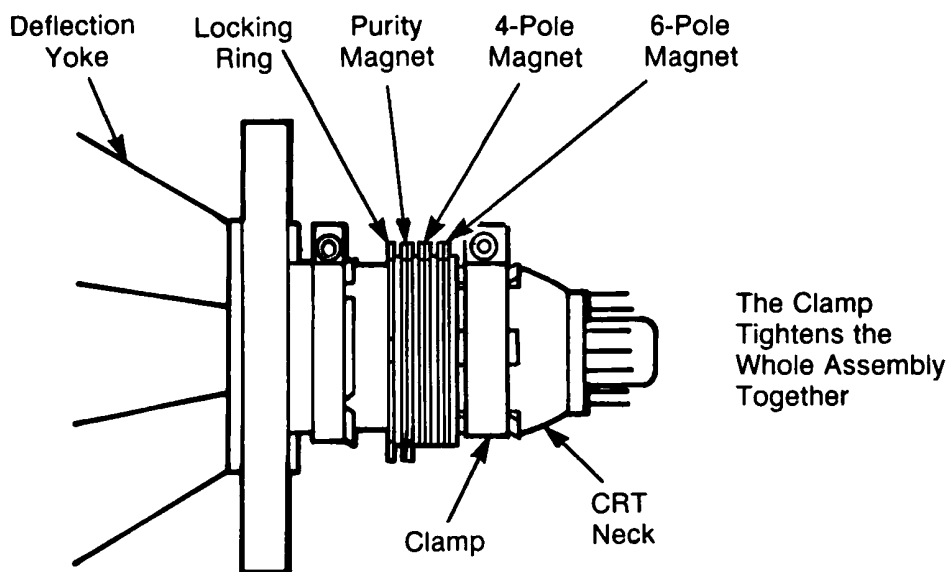

Figure 2-12 Magnet Set Placement
1. The magnets should be positioned along the neck of the tube approximately as shown in Figure 2-12. If they are not, carefully mark or record the original position and reposition them as indicated below. The original position may be useful for later comparison. An easy way to record the position is to draw a single line with a felt tip pen across all of the members of the set and onto the tube.